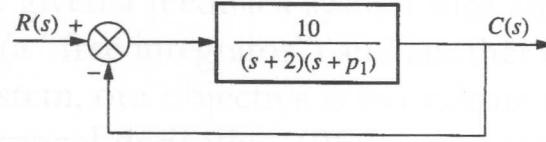

Figure 5
- 3.6 (10 points) Sketch the root locus of the system as shown in Figure 5.